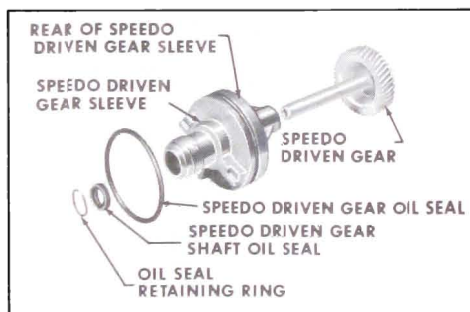

Figure 5-236
1. Remove speedo driven gear. See Figure 5-236.
2. Install speedo driven gear oil seal. See Figure 5-236.